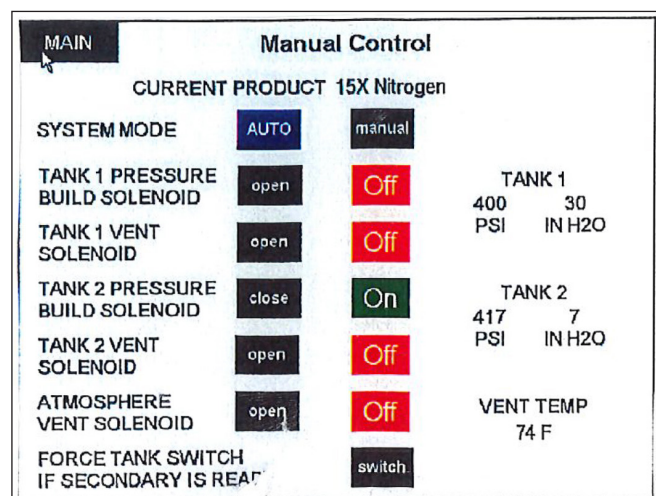

Figure 3 - Manual Control Screen
- While you're purging out the use valve(V-2) open the vent to bulk solenoid valves and the vent to atmosphere solenoid valve on the Manual Control Screen (Fig. 3), in order to purge through the auto vent plumbing circuits.
- From the Manual Control Screen, put the unit into Auto by pressing the Auto Button (See Fig. 3). Both tanks should now begin to fill and pressurize.